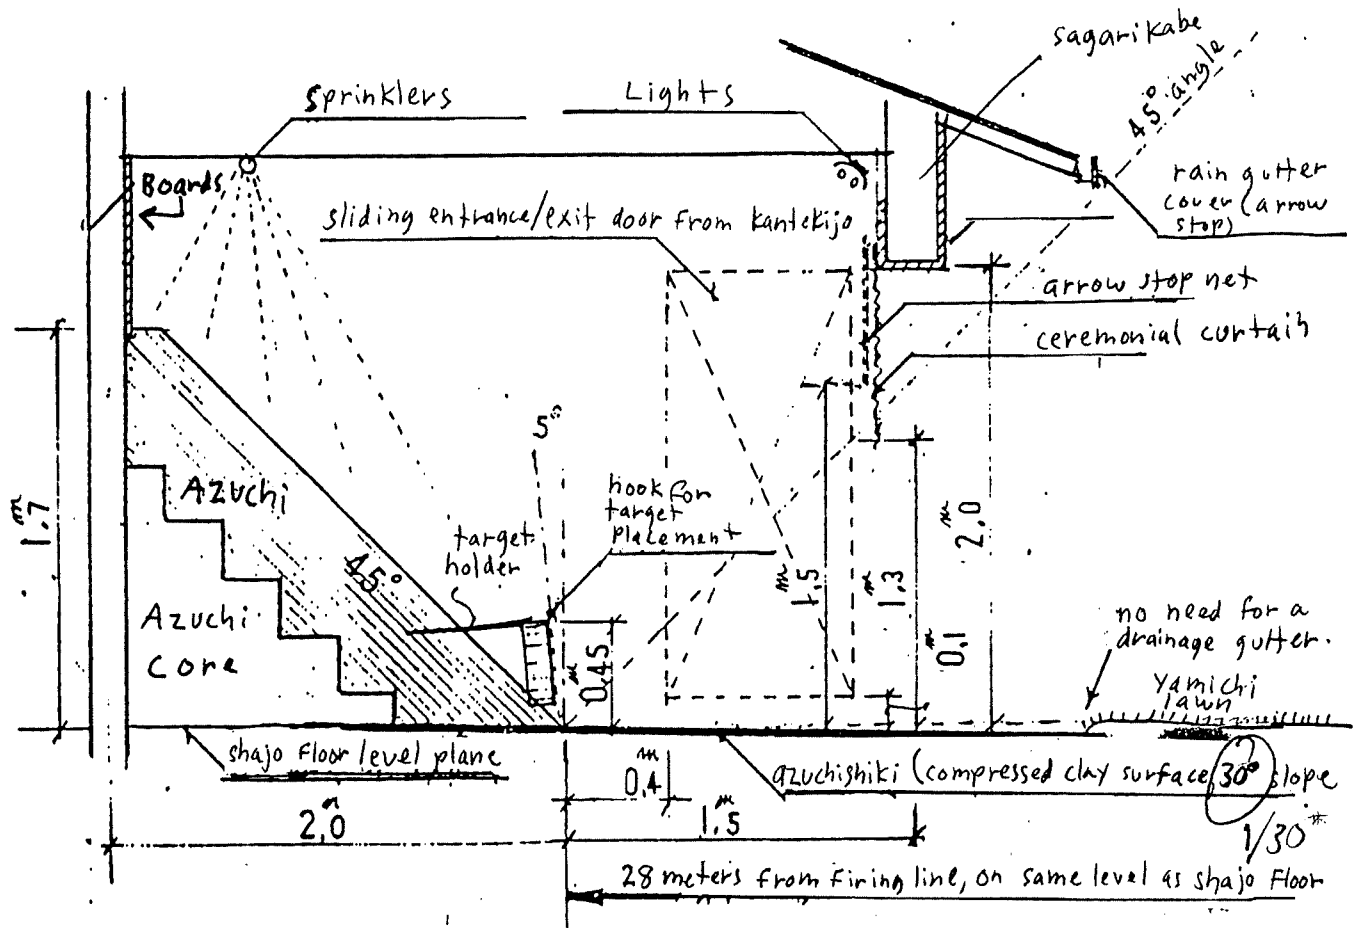

Figure 10 Matoba And Azuchi
- The *azuchi* (target bank) is considered even more important than the *shajo* (shooting hall) itself, and since there are strict regulations regarding the azuchi, great care and consideration is required. See Figure 10 for detailed specifications.
- The *matomae sagarikabe* (the vertical barrier extending downward from under the eaves of the target house, see Figure 10) should be placed so that it is about 1.5 meters from the front edge of the azuchi and should extend towards the ground so that its lower edge is about 2 meters above the *azuchishiki*. It should have hooks on the back along the lower edge for hanging an arrow stop net (for regular practice) and a ceremonial curtain (for formal events).
- The azuchi must always be kept moist, so sprinklers for spraying the azuchi should be mounted on the underside of the roof of the target house as shown in Figure 10. The sprinklers should spray water evenly so the surface of the azuchi does not become uneven. Also, additional faucets and garden hoses should be provided at the *kantekijo* (target viewing area) on both sides of the azuchi. (Note: At the dojo where I practiced in Kanazawa, there were no overhead sprinklers as described here. There was a faucet on one side of the azuchi with a hose and a wide showerhead type sprinkler head like those used for watering lawns. This would be sufficient for taking care of the azuchi for a 5-6 person dojo. Bamboo rakes and flat wooden trowels are also needed to keep the surface of the azuchi even after wetting it down and to pack it to prevent it from collapsing.)
9. In order to keep the volume of the azuchi down and to prevent the surface from collapsing, it is a good idea to construct a stepped core, as shown in Figure 10, made of graded earth or of styrofoam, etc. The azuchi earth must be piled over the top of the core to a depth of 60-70cm. (Note: I have heard it suggested that a good way of making the core is to use sandbags stacked one on top of the other like the ascending wall of a pyramid to provide a stepped surface for the azuchi. I assume that dirt would also be an acceptable filling.)
10. The lighting in the matoba must be concentrated on the targets and evenly illuminate the surface of the targets, making them clearly visible. Therefore, insofar as possible, a bank of lights on the right and left should be placed above and to the front of the targets, under the eaves of the matoba. See Figure 10. (Note: in addition to lighting in the matoba, there should be floodlights on the underside of the eaves of the shajo to illuminate the azuchi.)